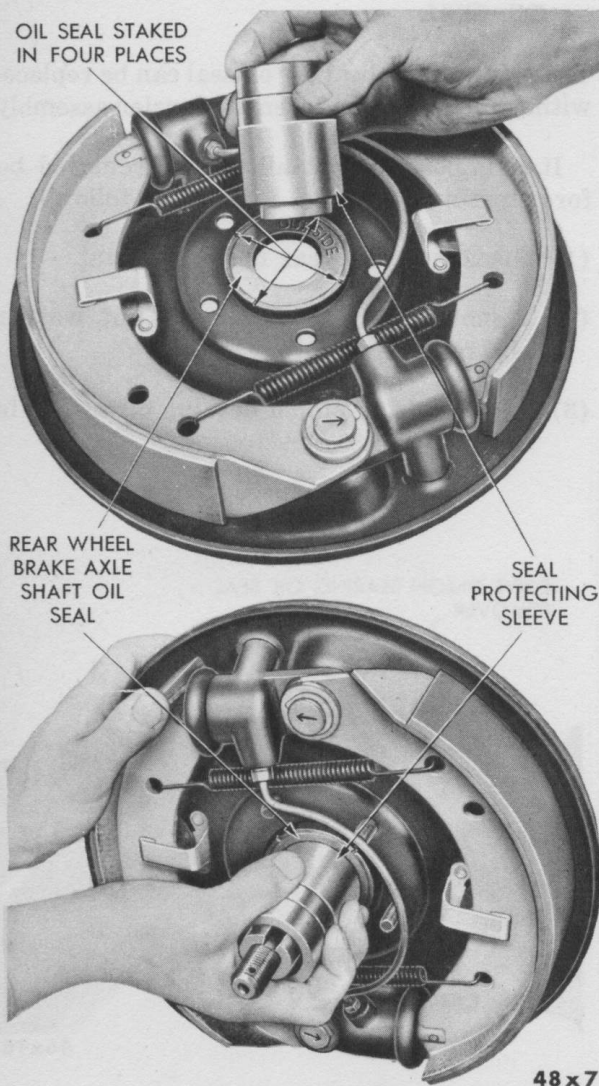

Fig. 32—Removing or Installing Brake Support
- (1) Disconnect the brake line from the brake support.
- (2) Remove the nuts holding the brake support to the axle housing.
- (3) Remove axle shaft key. Install seal protecting sleeve (Fig. 32) to protect the seal from being damaged by the axle shaft keyway when removing the brake support.
- (4) Remove or install shims to obtain the required axle shaft end play.